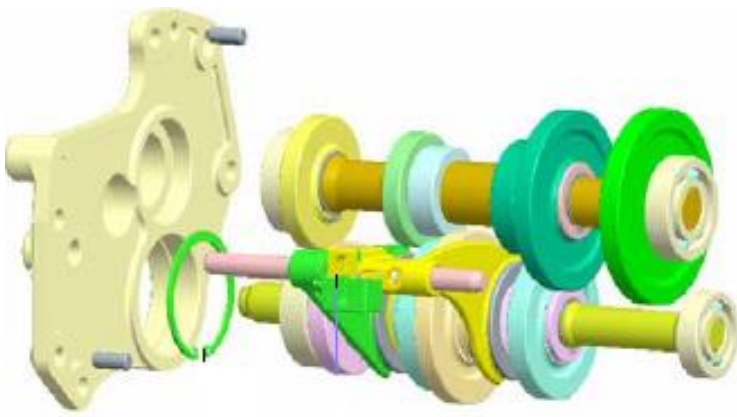

Fig.5-29.
c.Remove the shift stays from the bearing metal and remove the gears assemblies as shown Fig.5-29.